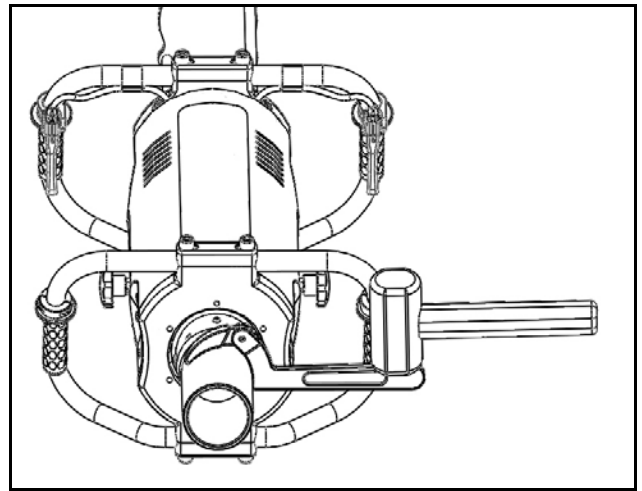

Figure 3 – Impactor Guide Sleeve Reinstallation
1. For reassembly, apply anti-seize compound to the threads and install the Impactor Guide Sleeve into the Impactor Assembly Retaining Nut while rotating clockwise until it is lightly seated. Use the spanner wrench to tighten. Several light taps from the dead-blow hammer on the spanner wrench may be necessary to fully secure the sleeve (see Figure 3).